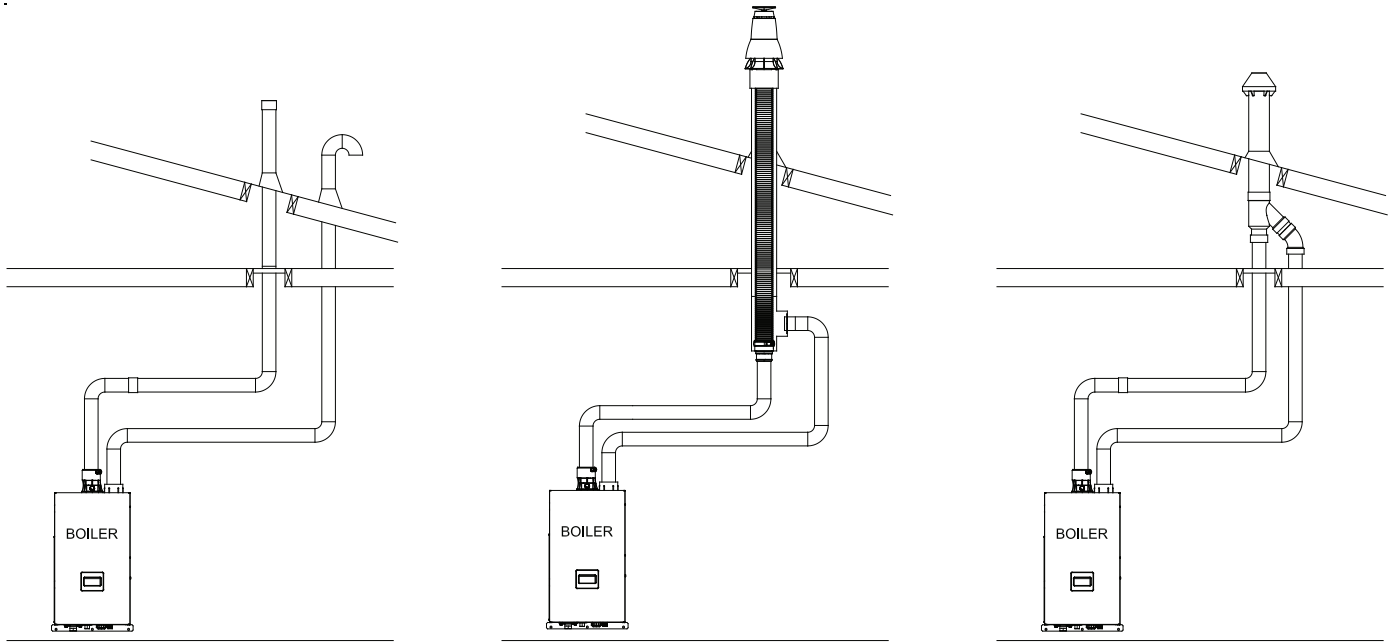

Figure 7.0b: Vertical Twin Pipe
- **Vertical Twin Pipe Venting (Figure 7.0b)** - Vent system exits the building through a roof. Combustion air and flue gas are routed between the boiler and the terminal(s) using separate pipes for at least part of the way. A summary of Vertical Twin Pipe venting options is shown in Table 7.13